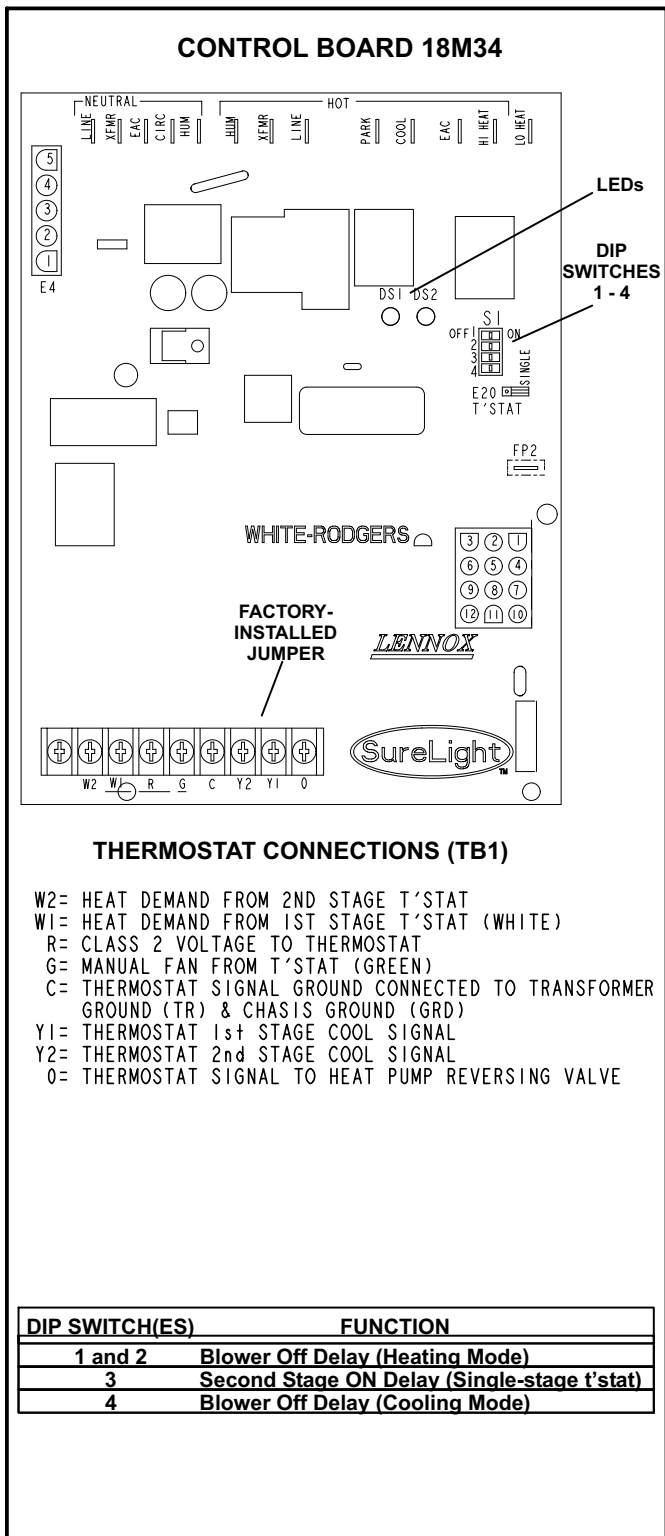

FIGURE 4
All G60UH units are equipped with the Lennox Two-Stage Integrated control board. The system consists of a ignition control board (figure 4 with control terminal designations in tables 3, 4 and 5). and ignitor (figure 7). The board and ignitor work in combination to ensure furnace ignition and ignitor durability. The board controls all major furnace operations. The board features two LED lights, DS1 and DS2 for troubleshooting. The board also has two accessory terminals rated at (1) one amp. See table 6 for troubleshooting diagnostic codes.
The control can be utilized in two modes: SINGLE-STAGE thermostat or TWO-STAGE thermostat. The thermostat selection jumper E20, located just below dip switches 1 through 4 (figure 4), must be positioned for the particular application. The jumper is factory set on "TWO" for use with a two-stage thermostat with two stage heat. Re-position jumper to "SINGLE" for use with a single stage thermostat with two stage heat.
Two diagnostic LED'S are located on the two-stage integrated control board. See figure 4. These light flashes correspond with the codes detailed in table 6.
Diagnostic LEDs are labeled DS1 and DS2. See figure 4 for location of diagnostic LEDs.
The control can be utilized in two modes: SINGLE-STAGE thermostat or TWO-STAGE thermostat. The thermostat selection is made using a dip switch (figure 4) and must be positioned for the particular application. The dip switch is factory set on “TWO” for use with a two-stage thermostat with two stage heat. Re-position dip switch to “SINGLE” for use with a single stage thermostat with two stage heat. While in the single-stage thermostat mode (*single* dip switch setting), the burners will always fire on first-stage heat. The combustion air inducer will operate on low speed and indoor blower will operate on low heat speed. After a 10 minute recognition period, the unit will switch to second stage heat. While in the two-stage thermostat mode (*two* dip switch setting) the burners will fire on first-stage heat. The combustion air inducer will operate on low speed and indoor blower will operate on low heat speed. The unit will switch to second-stage heat on call from the indoor thermostat. If there is a simultaneous call for first and second stage heat, the unit will fire an first stage heat and switch to second stage heat after 30 seconds of operation. See Sequence of Operation flow charts in the back of this manual for more detail.